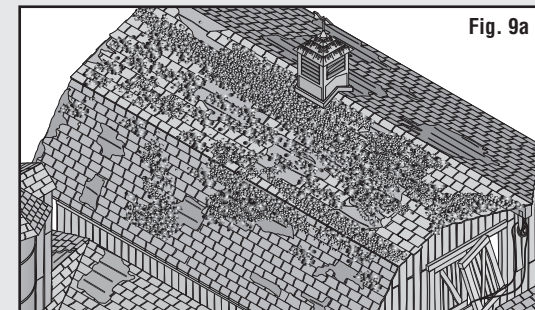

Fig. 9a
- Brush adhesive onto Roof where Turf is desired (**Fig. 9a**).